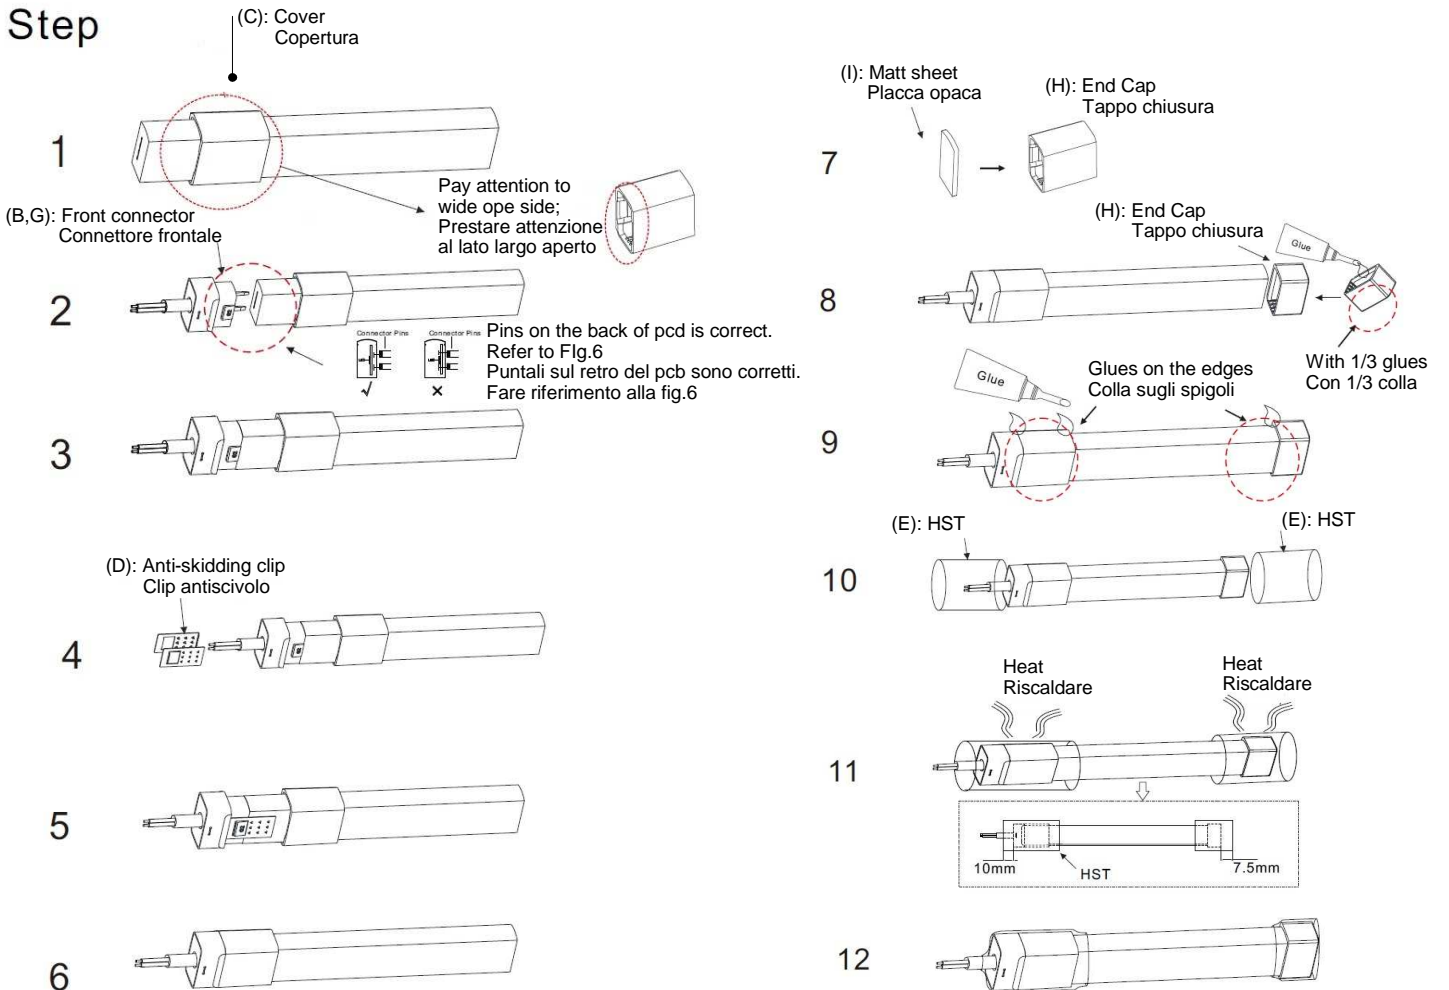

Fig.8 For clip or common aluminium profil
4. Installare il profilo ad U (F) o le clips (L) e la strip (A) secondo la Fig. 8.
4. Install U channel (F) or clips (L) and light (A) according to Fig. 8.